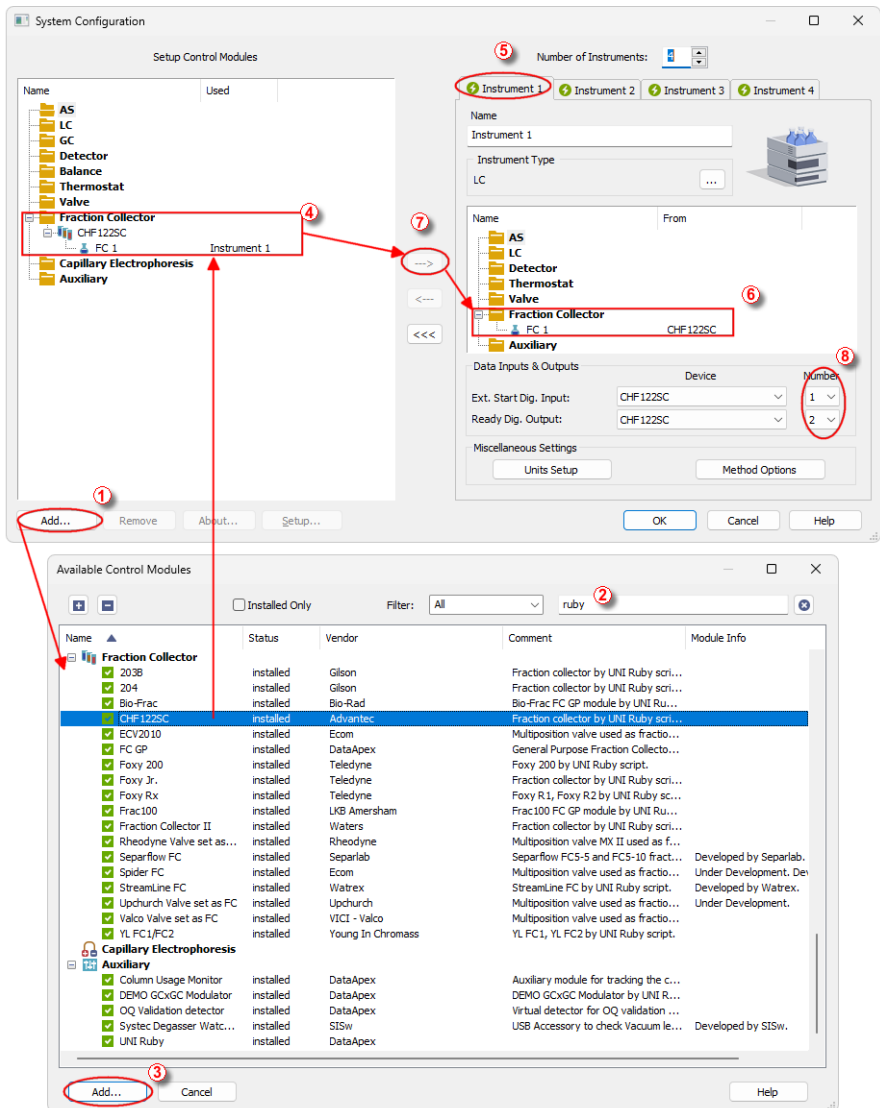

Fig. 3: How to Add UNI Ruby module
- Press the **Add** button (① on **Fig. 3** on pg. 4.) to invoke the *Available Control Modules* dialog.
- You can specify the search filter (②) to simplify the finding of the driver.
- Select the correct item and press the **Add** (③ on **Fig. 3** on pg. 4.) button. Each device with already created UNI profile should have its own item named accordingly in the *Available Control Modules* dialog.